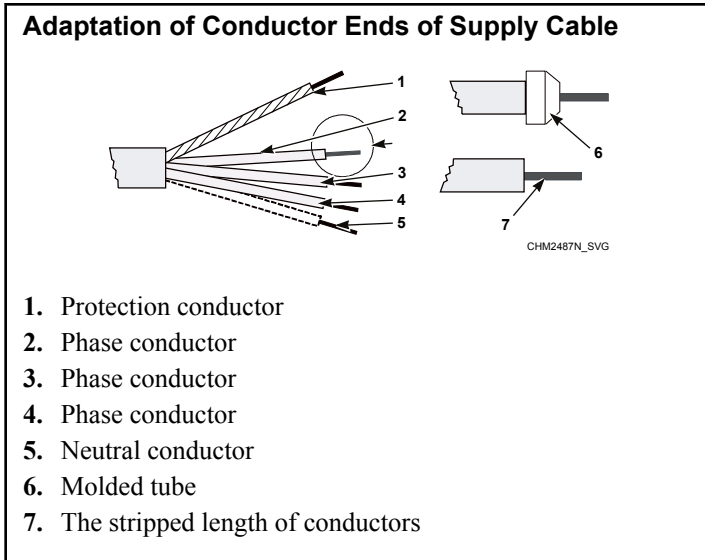
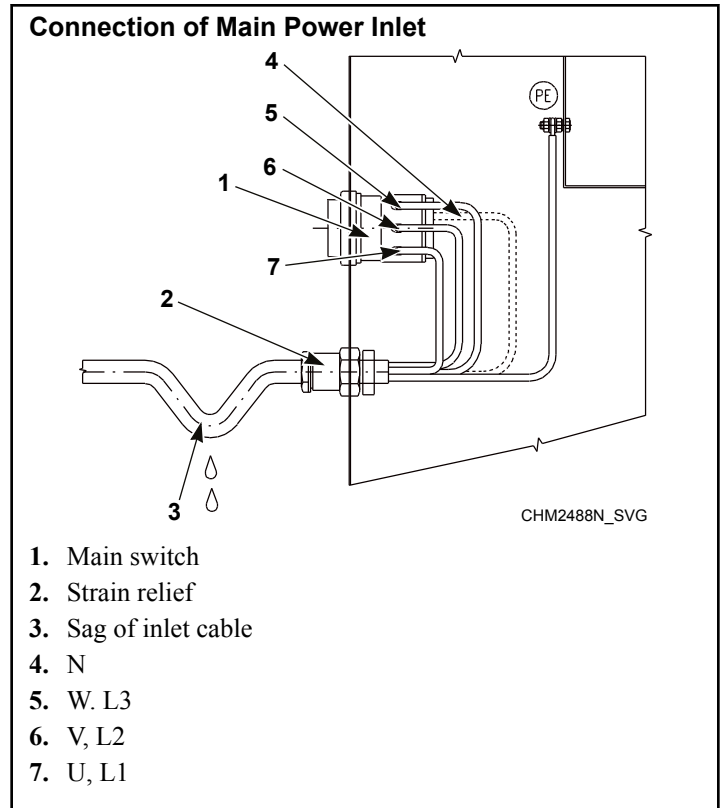

Figure 33
Figure 34
- Strip the conductor ends. Refer to *Figure 33* .
- With stranded conductors, use “wire end tubes” with an insulated sleeve (6) for L1/U, (L2/V), (L3/W), (N) conductors. Make sure there is no accidental contact, since the supply cable stays under voltage even when the main switch is off.
- Connect the supply cable conductors to the incoming terminals (main switch (1)) marked with L1/U, (L2/V), (L3/W), (N), and the terminal (copper screw) marked with PE. Refer to *Figure 34* .
7. Provide a sag in the cable, in front of the cable strain relief. This will avoid condensed water dripping into the machine. Refer to *Figure 34*.